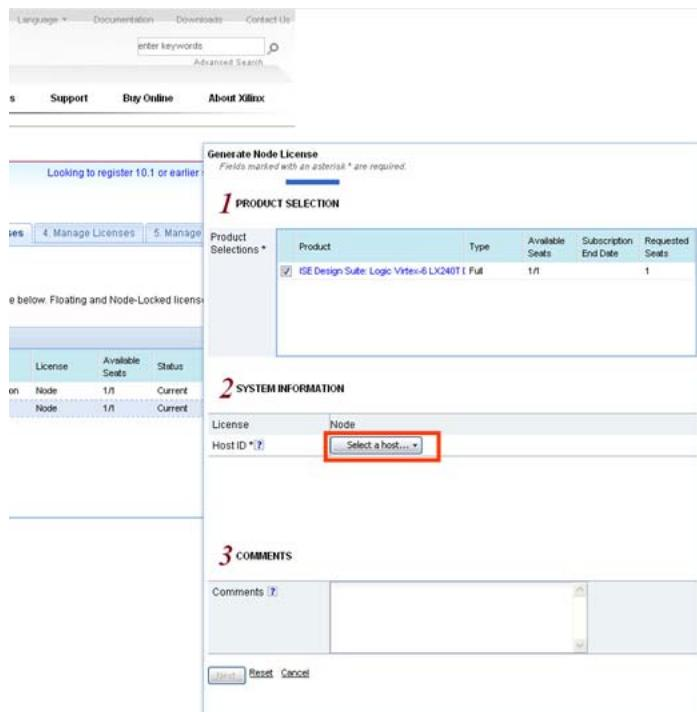

Figure 1-63: Select a Host
4. Click on the **Select a host** button and enter (Figure 1-63)